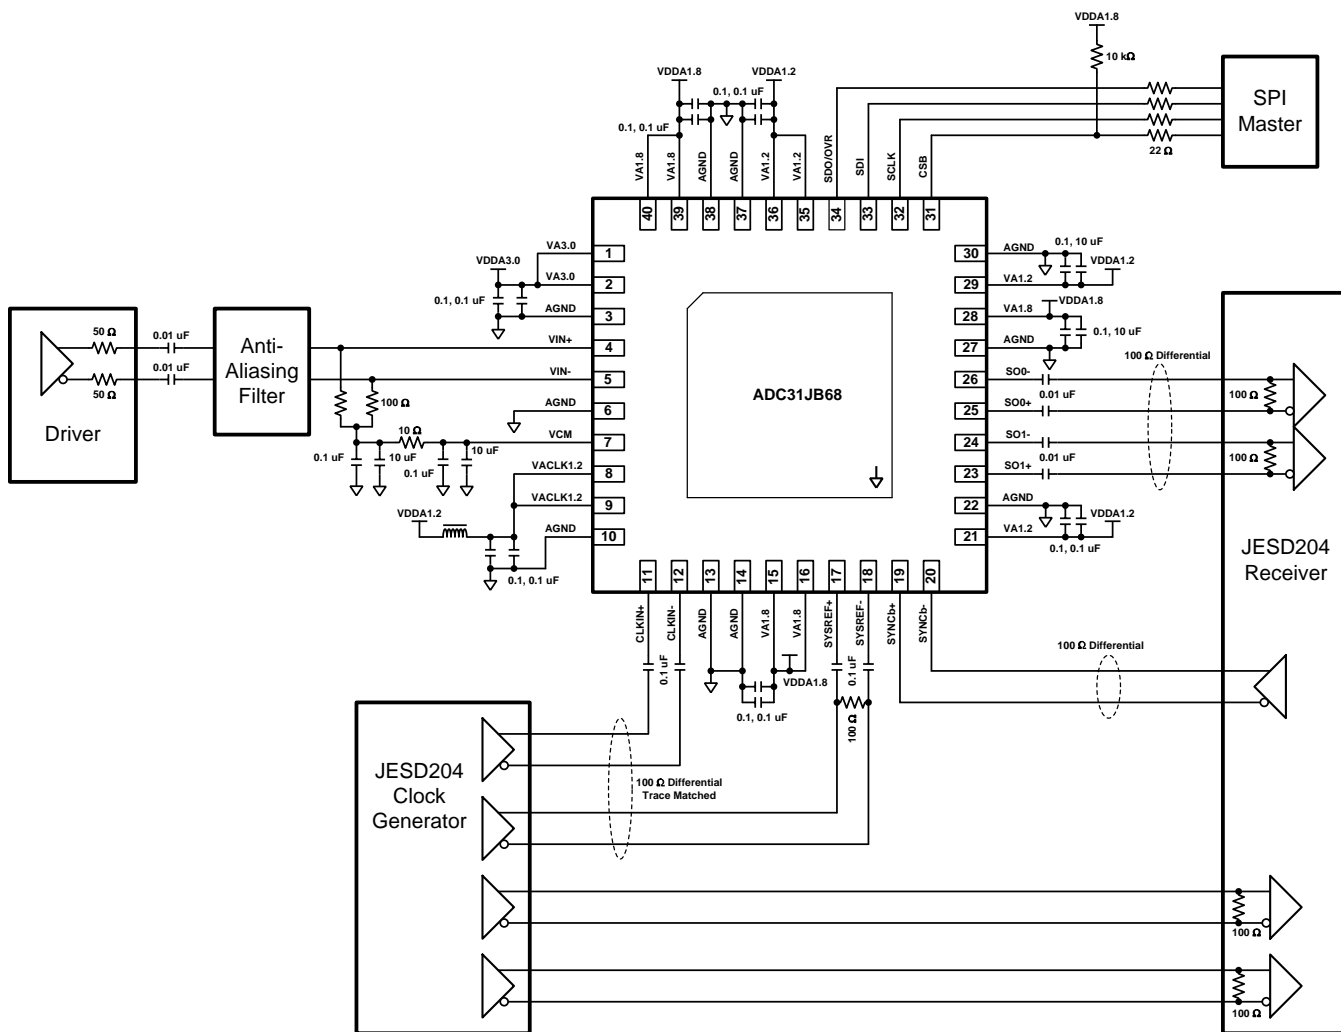

Figure 78. Typical Circuit Implementation
- Refer to Figure 78 for an example hardware design.